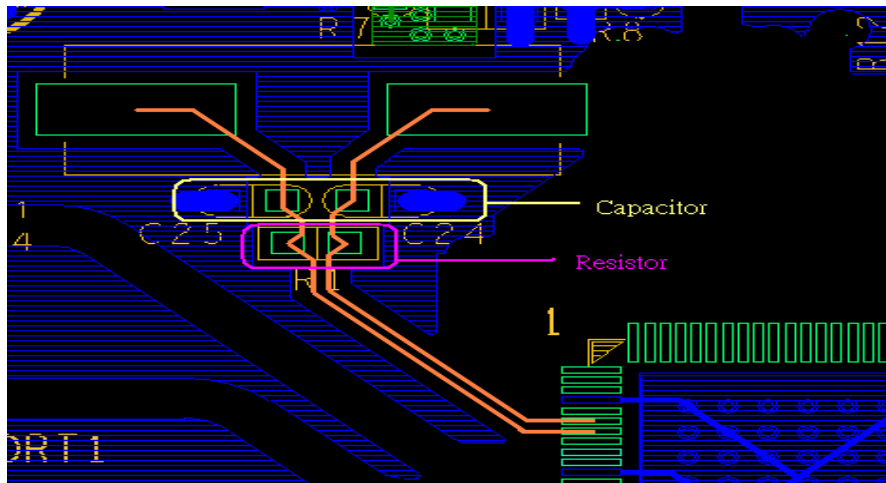

Figure 2.12
2. Keep the distance between crystal and the IC less than 1cm to avoid triggering high frequency oscillation on PCB. If over 1cm is unavoidable in the design, place the capacitors and the resistor as close as possible to the IC. Recommend less than 1cm if possible. And the resistor needs to be between the IC and the capacitor. See **Fig. 2.12**